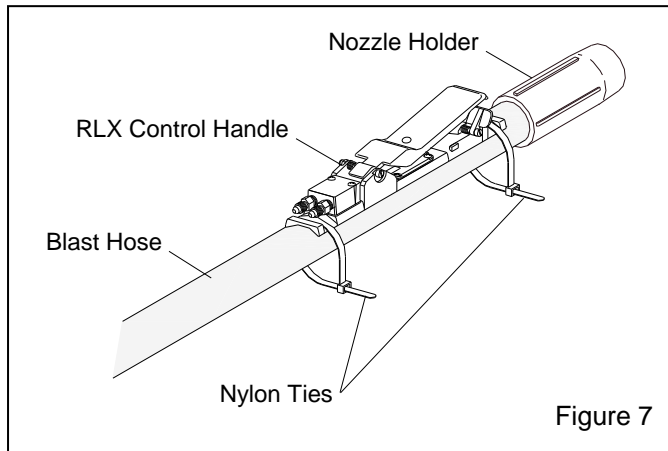

Figure 7
**2.5.2** Band the control handle to the blast hose close to the nozzle holder, as shown in Figure 7, using the two nylon ties provided. Once the control is firmly attached, clip the tie ends to avoid snags or interference with the operation of the control handle.